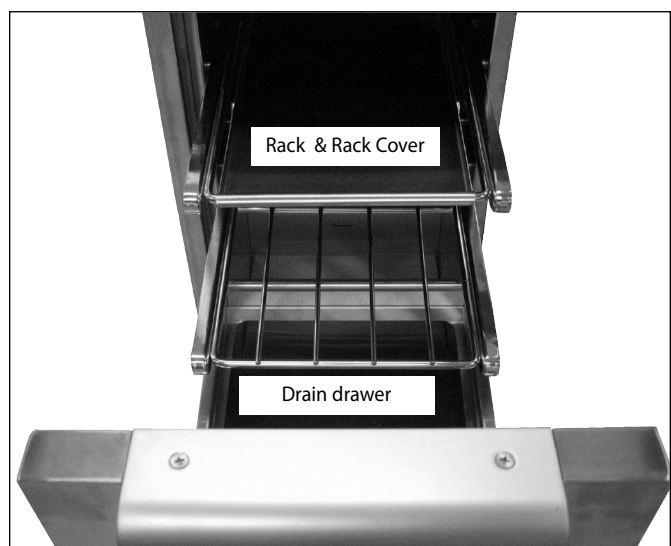

Fig. 16
8. On models so equipped, install the two (2) racks provided into the opening by sliding them onto the rollers on the sidewalls of the center cavity (Fig. 16).